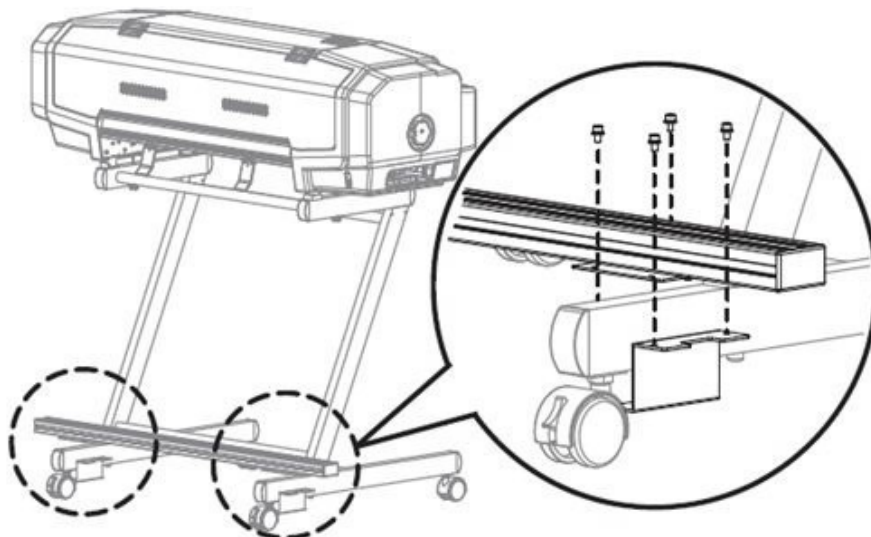

Figure 31
2. Make sure that bottom of the screws of driving unit and driven unit are into the groove, then slide the unit. Embed them so that the driving unit is on the right side and the driven unit is on the left side when seen from the front. See Figure 31.
3. Attach the rail caps on both edges of the rail. See Figure 31.